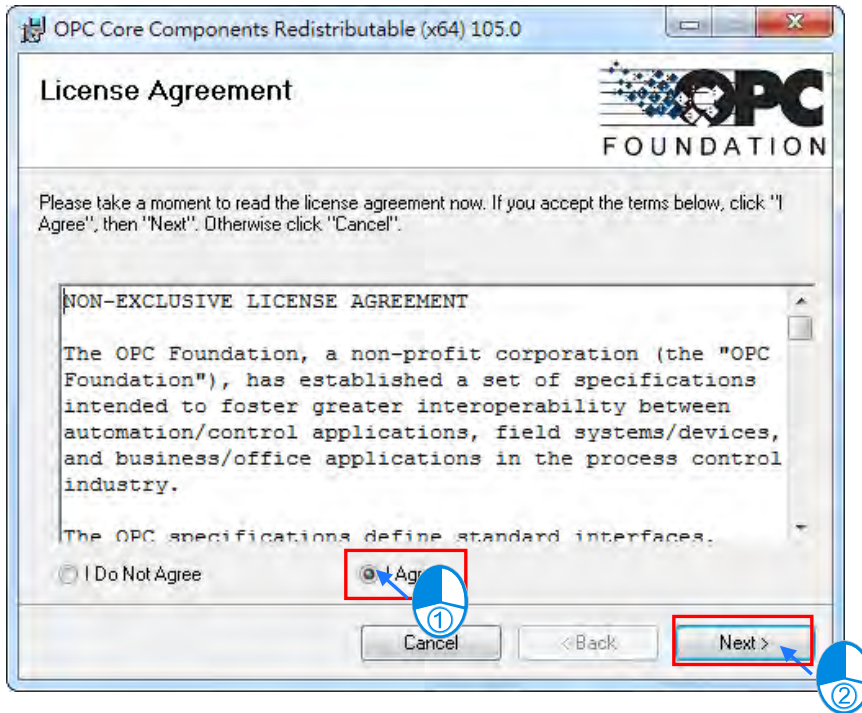

Figure 1-6 License Agreement
- (5) And then the OPC Core Components window will appear. Select **I Agree** and then **Next**, as shown in figure 1-6.
(9) Finally, click **Finish** to complete the installation of Delta OPC, as shown in figure 1-6.